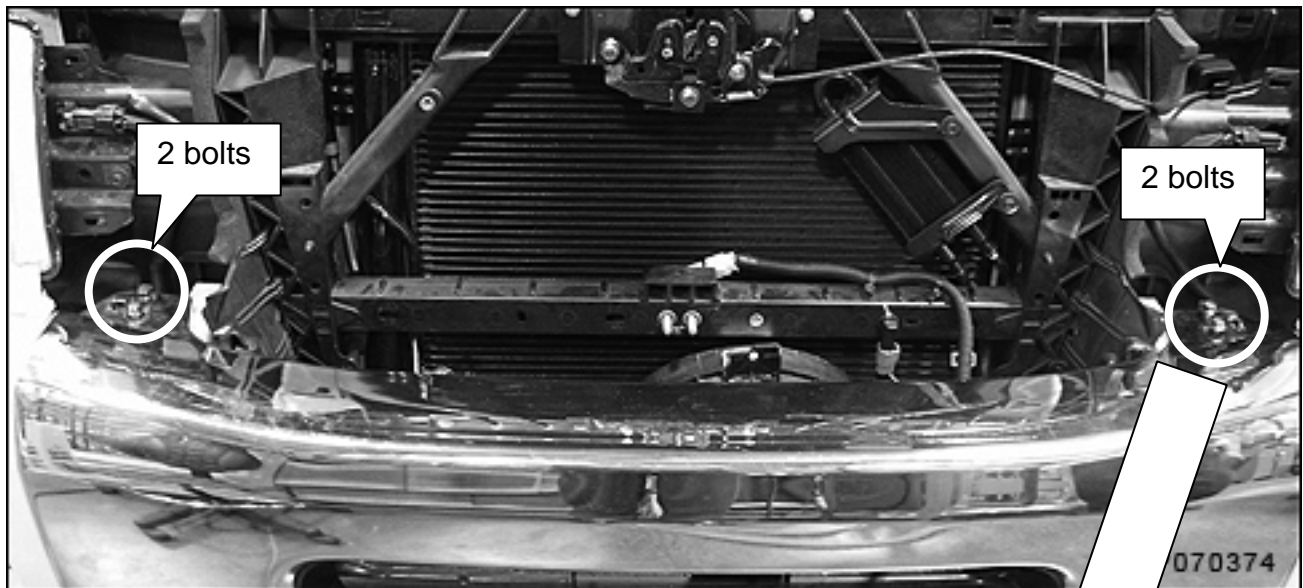

Figure C-17
- b. Install and Torque 4 bumper bolts (see Figure C-17).